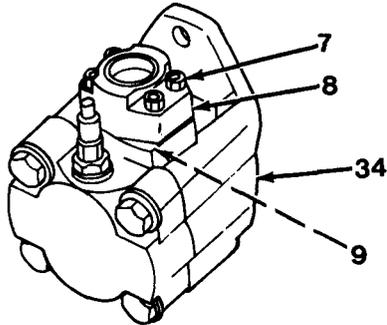

Figure 16-5
6. Remove four allen screws (7) and split flange adapter (8) from motor (34, Figure 16-5).